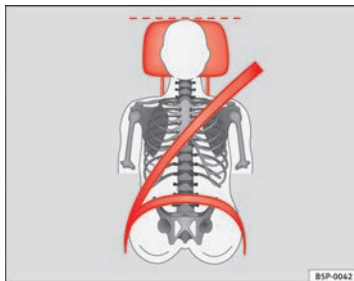
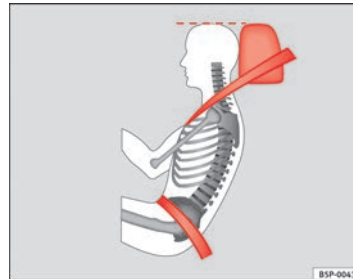

Fig. 69 Front view: head restraints and seat belts correctly adjusted
Fig. 70 Side view: head restraints and seat belts correctly adjusted
- Adjust the head restraint so that the top is at the same level as the top of your head or as close as possible to the same level as the top of your head, at least at eye level ⇒ Fig. 69 and ⇒ Fig. 70.